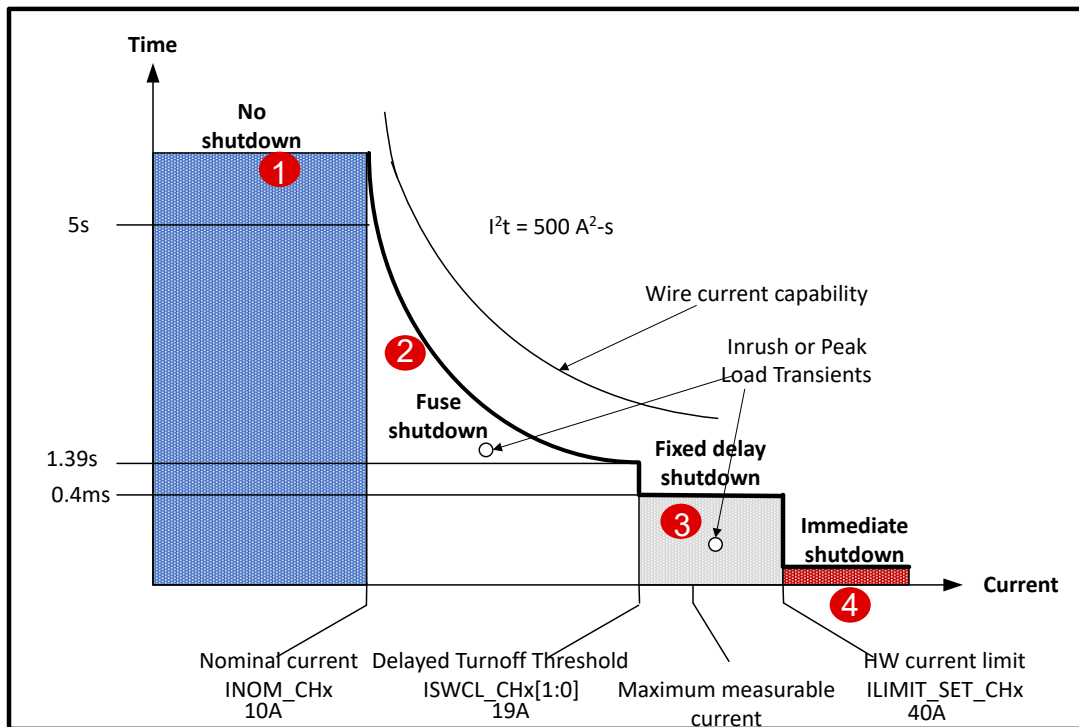

Figure 3. Programmable fuse characteristics
- Configurable time-current profiles.** Rather than a standard flat current limit, an embedded fuse characteristic time-current curve determines when or if the switch turns off, depending on the time and duration of the load current. This enables the eFuse to pass high load currents (motor inrush and stall currents, for example) for brief periods, but turn off under overload conditions to protect the wire harness, PCB traces and connectors. Furthermore, SPI configuration enables a large programming range for fuse curves with just two parameters: the nominal current and shutoff energy trigger threshold. Figure 3 illustrates an example protection scheme across the full current range.